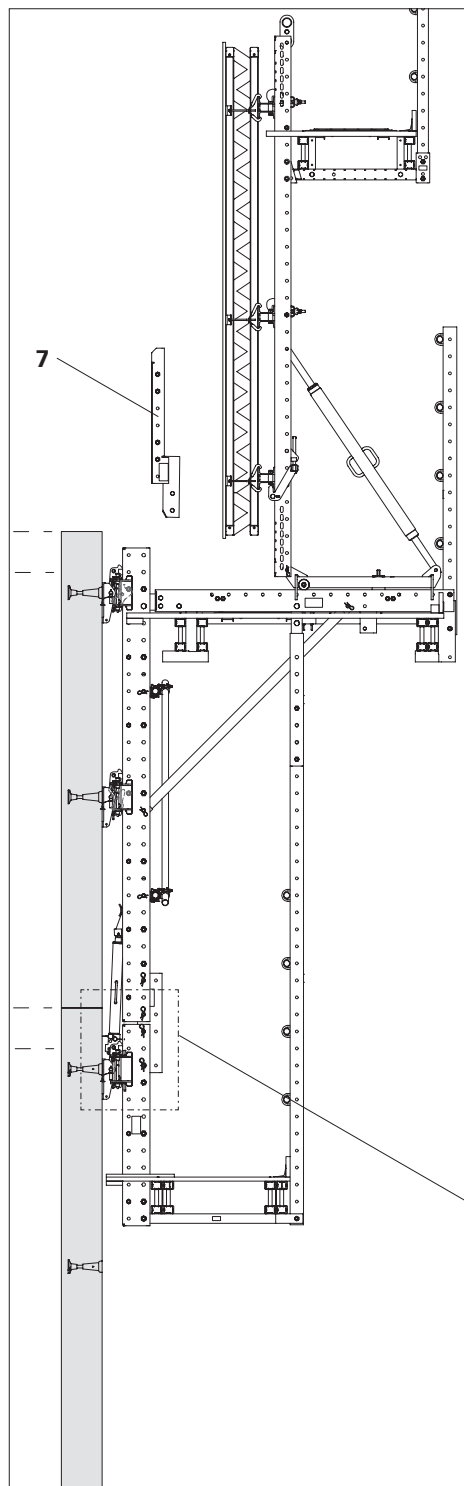

Fig. D6.17
1. Remove the climbing rail extension (7) from the upper end of the climbing rail (1).
3. Tilt the climbing device backwards, operate the locking lever (60.6) on the cylinder base and lift out the climbing device. (Fig. D6.17 + D6.17a)